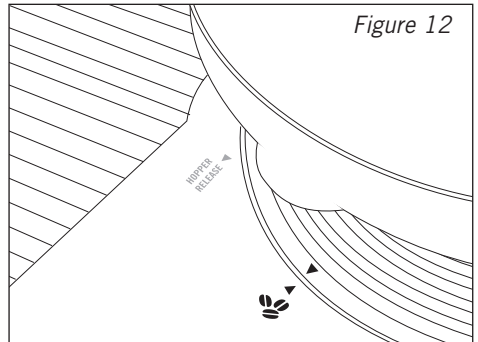

Figure 12
- Turn the hopper so that the arrow on the base of the hopper is aligned with the  whole beans arrow and the brewing mechanism sets to the required function. See figure 12.